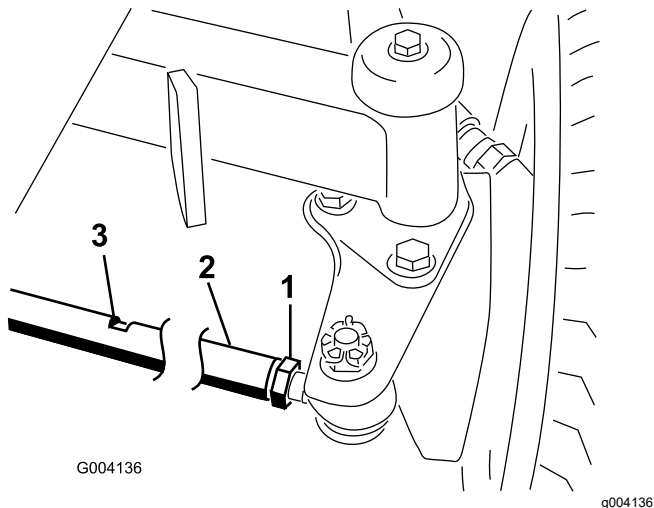

Figure 63
2. Loosen the jam nut on each end of the tie rod (Figure 63).
3. To pivot the wheels, rotate the tie rod to by turning it at the wrench flats (Figure 63).
6. Tighten the jam nut on each end of the tie rod (Figure 63).